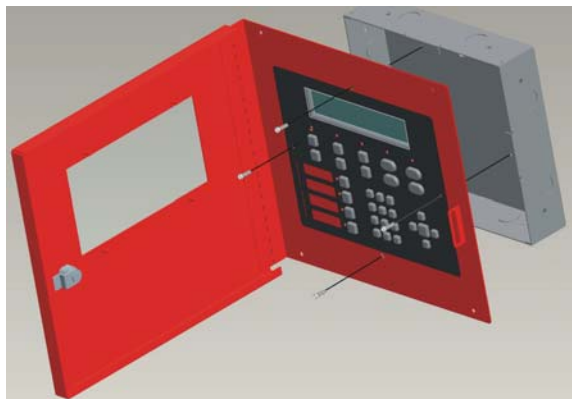

Figure 4 Attaching the Door Assembly to the Backbox
4. Use the supplied screws to attach the annunciator/door assembly to backbox as shown in Figure 4.
5. Attach the annunciator/door assembly to the backbox Use the screws provided. (See Figure 4).